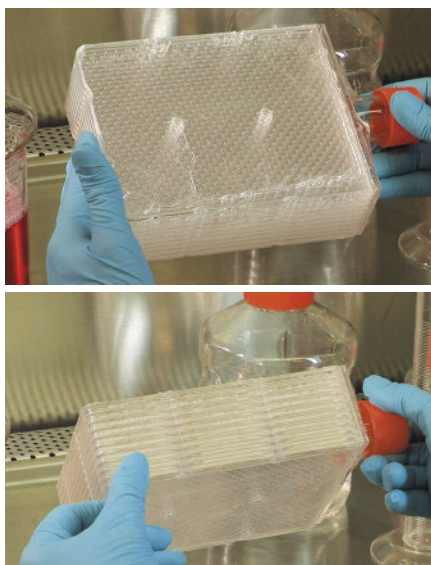

Figure 6. Rotating the flask several times back and forth will completely expose all of the cells to the rinsing or dissociating solution.
4. Gently rotate the flask back and forth 180° along its long axis several times so that the entire cell sheet in each layer is thoroughly rinsed (Figure 6).